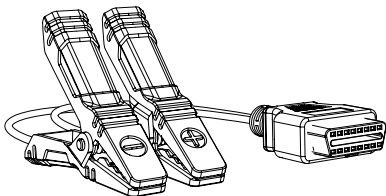

Figure 2.1.5
10. Battery Test Cable with OBD-II Female Connector & Battery Clamps. (See Figure 2.1.5)